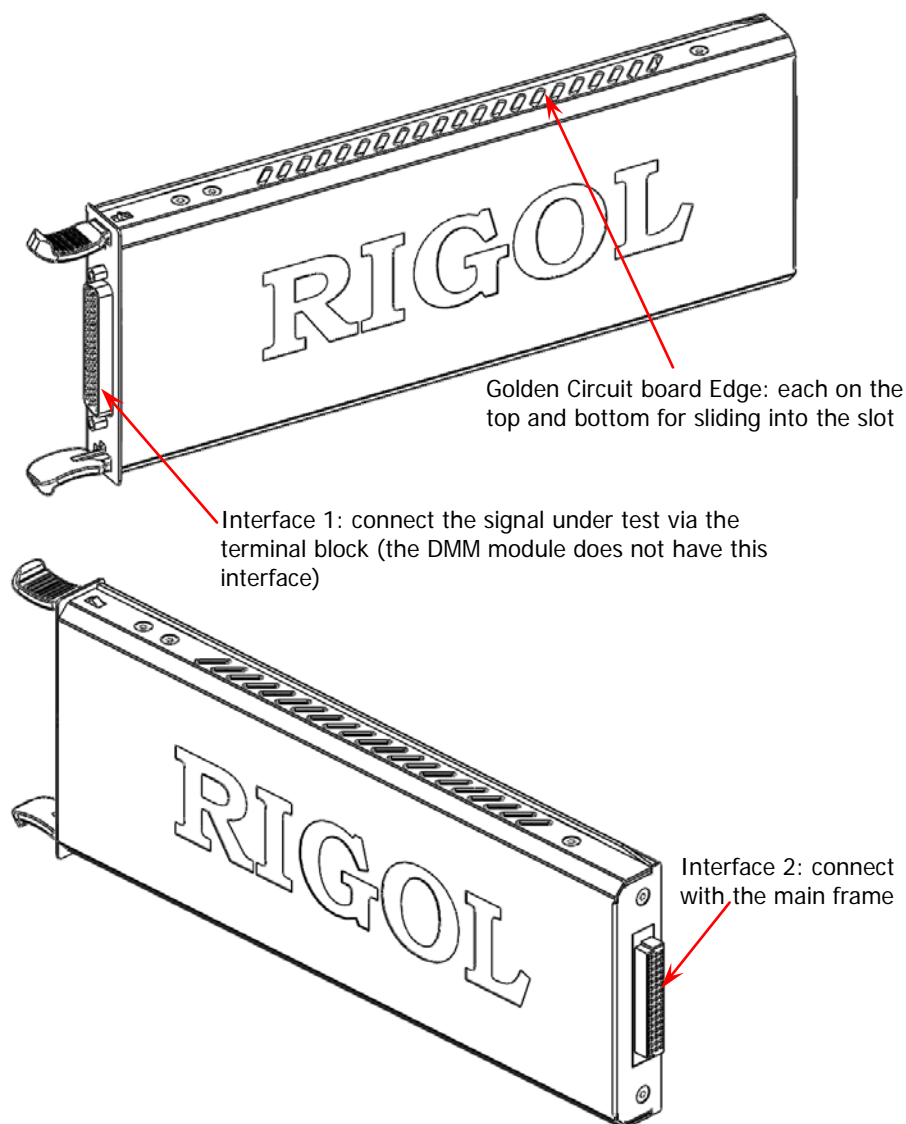

Figure 1-7 Outside view drawing of the module
As shown in Figure 1-7, there is a golden circuit board edge both on the top and bottom of the module. Aim the two edges with the sliding chutes (as pointed out by the arrows in the figure below) into the main frame slot and push the module in until you hear a sound. At this point, interface 2 is connected to the main frame.
3. Connect the terminal block to the module via interface 1 (the interface definition is in Figure 1-7) on the module and screw down the two screw rods onto the nuts on the module.